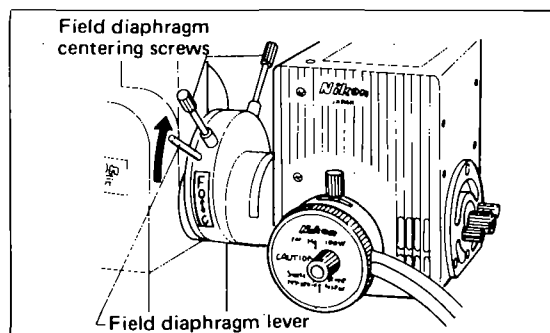

Fig. 13
- 2) Turn the field diaphragm lever up to [0] to open the diaphragm fully. (Fig. 13)
- 3) If the field diaphragm is found decentered in reference to the viewfield of the eyepiece, make adjustment by means of the field diaphragm centering screws (Refer to Fig. 13), until a concentric position is obtained.